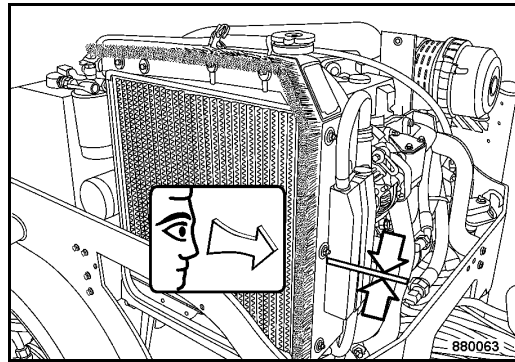

Fig. 176
- Fill in coolant up to the "MAX" mark (Fig. 176).